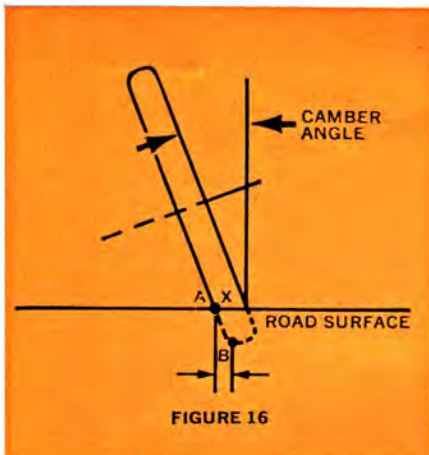
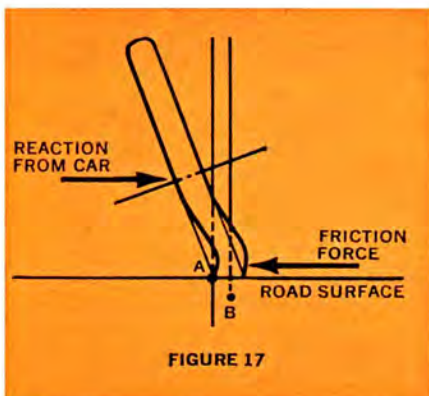

FIGURE 16
FIGURE 17
One of the considerations in suspension design is control of *camber*; that is, the angle of the plane of the wheel relative to the horizontal plane of the road. A wheel at such an angle exerts a side force, as you can see from the diagram in Figure 16. If the road surface were removed for a moment, it's clear that a particle of rubber (X) would move sideways with rotation from point A to B. However, if the road surface is in the position shown, the same particle (X) would be restrained by friction in a line through A. The wheel and force diagram would then look like Figure 17. This friction force produces a thrust on the vehicle to the left.